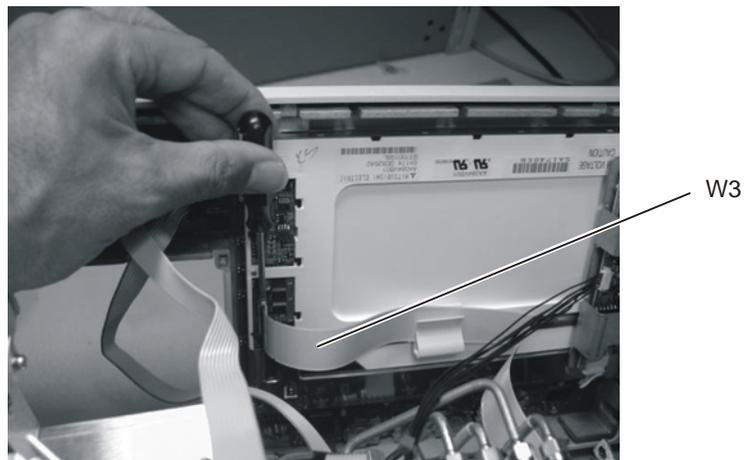

Figure 7-11. Disconnecting the W3 Mylar Flex Cable
- 7 Disconnect the W3 mylar flex cable, shown in Figure 7-11. Pry up the retainer slightly at either end of the connector, using a small flat-blade screwdriver. Do not force the retainer; it should remain attached to the body of the socket.